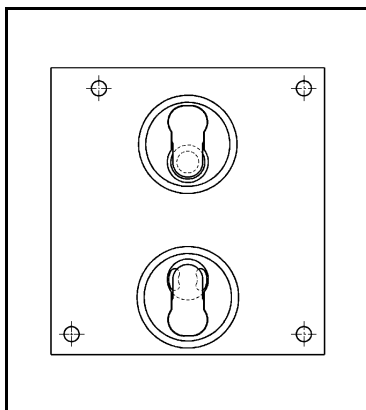

Fig. 23: Position of valve plates
1. Remove the two valve plates (3), the two O-rings (4) from the intermediate plate (5).
**i** The O-rings may also stick to the underside of the head plate (2).
2. Check valve seats and intermediate plate (5) for soiling and damage. Clean the parts if necessary.
4. Lay new valve plates (3) in the valve seats of the intermediate plate (5). See Fig. 23 for position.